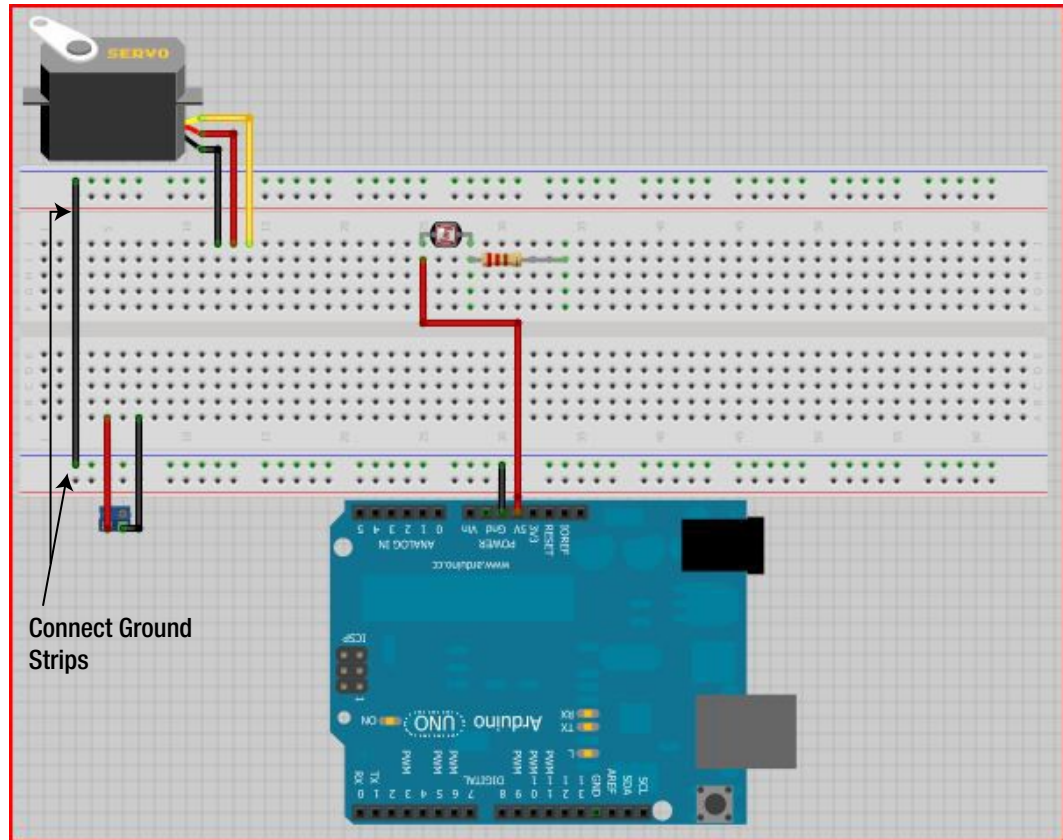

Figure 27-10. Attach the ground rails of the breadboard to one another
9. Connect the two ground columns (running parallel to the blue lines on either side of the breadboard) using a jumper wire (we used black). Figure 27-10 illustrates this process.